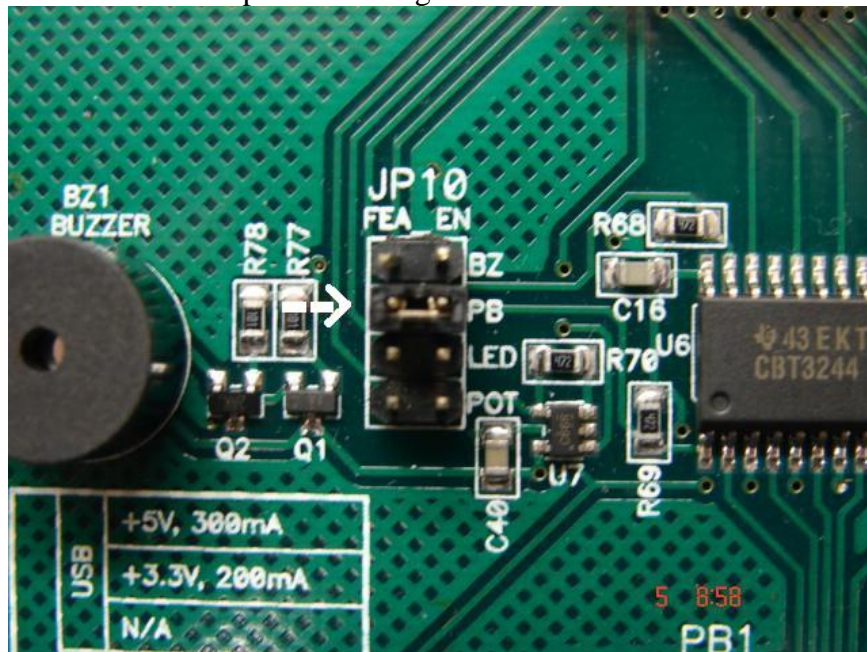

Figure 20 MCU Project Board Jumper setting for use with APS12C32SLK
- ◆ Make sure only the jumper PB on option header FEA_EN on MCU Project Board is connected and all the others are unconnected as pictured in Figure 20